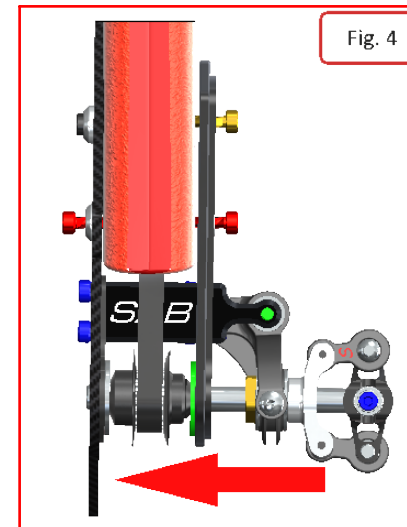

Fig. 4
**Figure 4**, Loosen the 2 RED screws and the YELLOW and push the tail side in according with red arrow. Tighten the YELLOW screw while you are pushing. You can proceed step by step until the tail belt is tight enough. Hard 3D style will require more tension; Sport flight style less. When you set your perfect tension, you can tighten all screws making sure the tail shaft is perfectly straight.